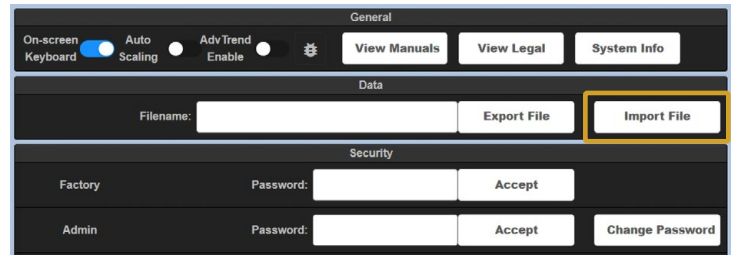

Figure 5
3. On the General settings page, click the **Import File** button in the top-right corner. See Figure 5.